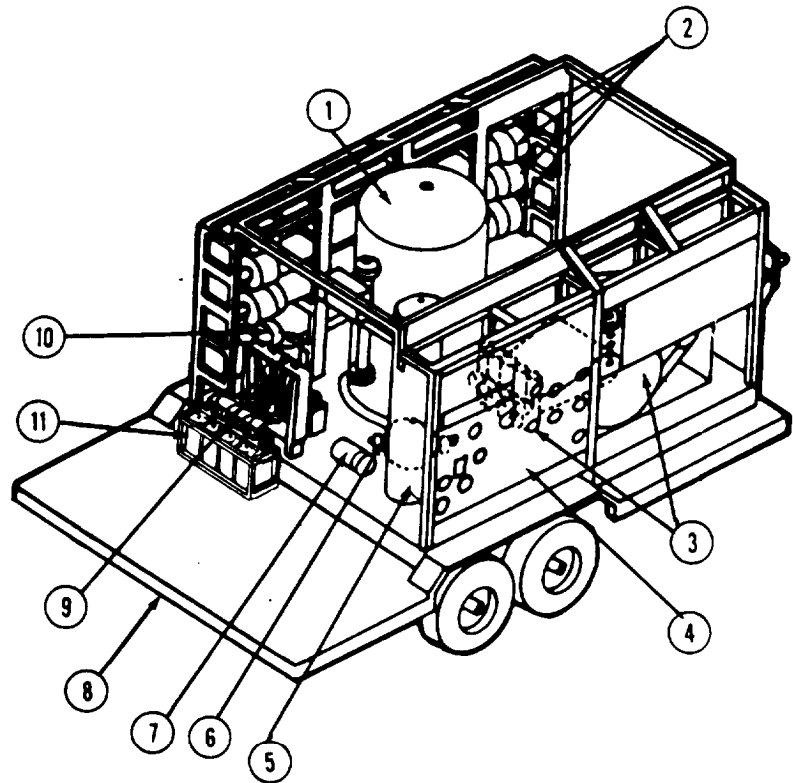

Figure 1-13. ROPU - Generator Removed (Rear View)
e. Fig. 1-13 identifies the following parts: